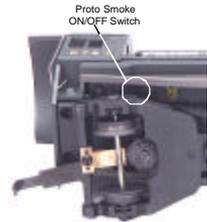

Figure 5. Smoke Switch
2. If you choose not to prime the unit with fluid, turn the smoke unit switch located under the engine to the OFF position (Fig. 5 on pg 10). Running the engine without a primed smoke unit may cause damage. See the “ProtoSmoke Unit Operation” section of this book for more information on smoke unit maintenance.
- If you choose not to add the fluid (or have already added the fluid but choose to run smoke-free), turn off the smoke unit switch located under the engine body (see Fig. 5). Failure either to add fluid to the unit or to turn it off may damage the smoke unit heating element and/or wicking material.